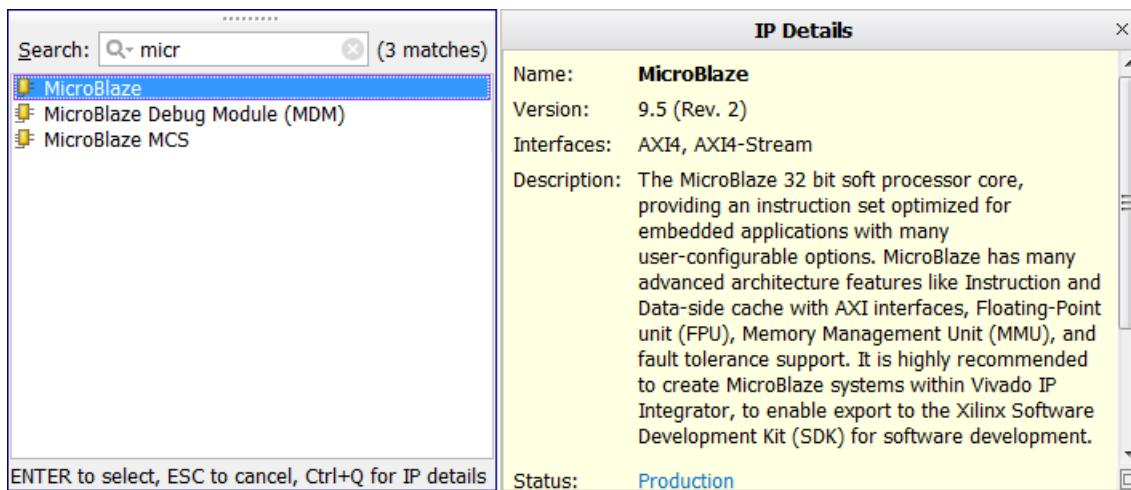

Figure 101: Search Field
6. As shown in Figure 101, type **micr** in the Search field to find the MicroBlaze IP, then select **MicroBlaze** and press the **Enter** key.